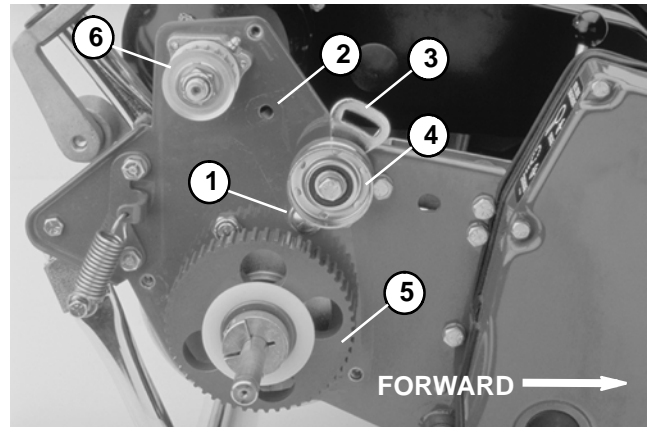

Figure 55
8. Remove belts from both drum drive assemblies as follows (Fig. 55):
9. Reinstall belts to both drum drive assemblies as follows (Fig. 55):